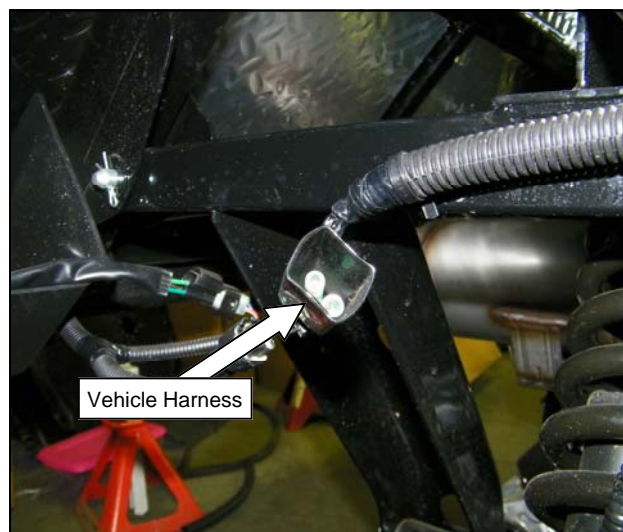

Fig. 10
10. Connect male bullet attached to either female on end extension wire harness WH-00016. Route harness along vehicle frame towards accessory harness near right rear tail light of vehicle and attach to bullet on brown/red wire and secure as shown in figure 10.